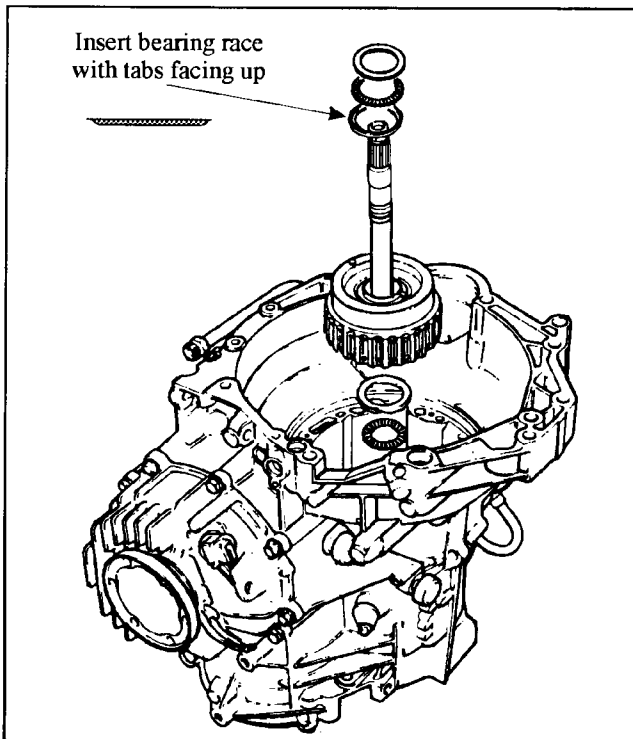

Figure 151
24. Install the K3 drum into the case, and twist until the clutches are splined onto the small drive shaft (See Figure 151).
25. Insert the Torrington bearing and both races onto the K3 drum (See Figure 151).